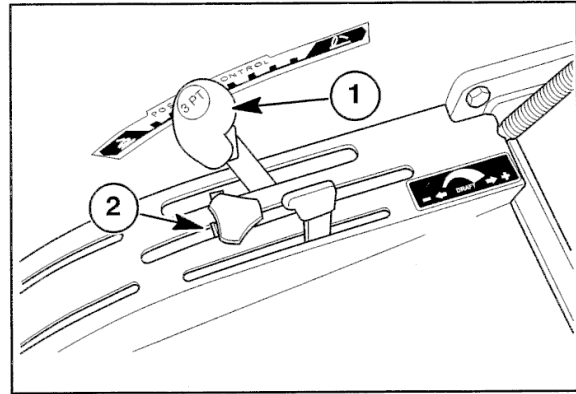
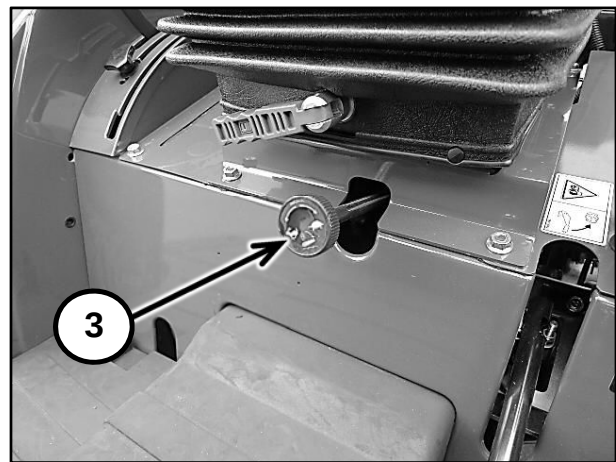

Figure 2-46
Figure 2-47
The HPL lever (1) in Figure 2-46, is located on the right-hand control pod. The lever controls the position of the two lift arms.
To lower the lift arms, first make sure the drop rate control valve (3) in Figure 2-47 is open, then move the HPL lever forward. To raise the lift arms, move the lever rearward. An adjustable stop (2) in Figure 2-46, is located in this quadrant for returning the lever to a preset position.